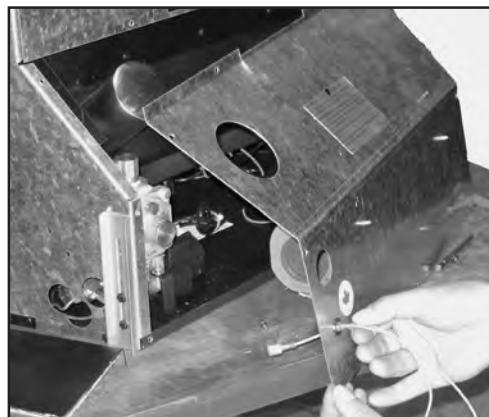

Figure 33: Spill Switch Wires Fed Through Back Panel.
- Feed the connector end of both wires through the hole in the bottom left corner of the back panel (see Figure 33).